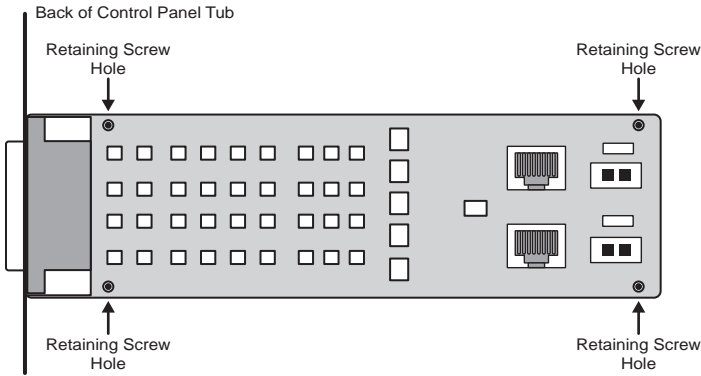

Figure 2 Retaining Screw Alignment
6. Align the **Tally Board** with the **Tally Ports** out the hole in the back of the control panel tub, and the **4 Retaining Screw Holes** with the standoffs on the bottom of the tub (**Figure 2**).